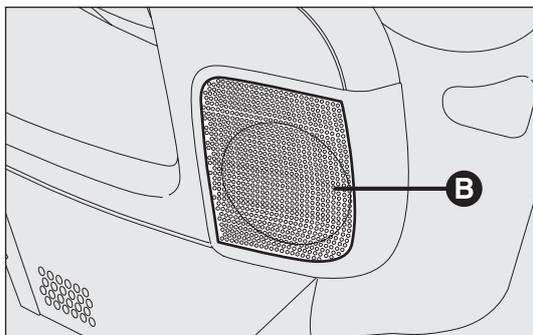

fig. 133
- 2 mid-woofers **B** in the front doors (165 mm diameter, 40 W max power each) fig. 133;